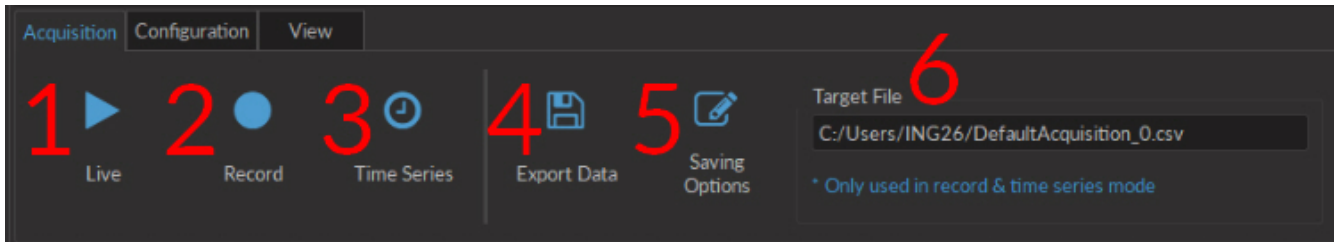
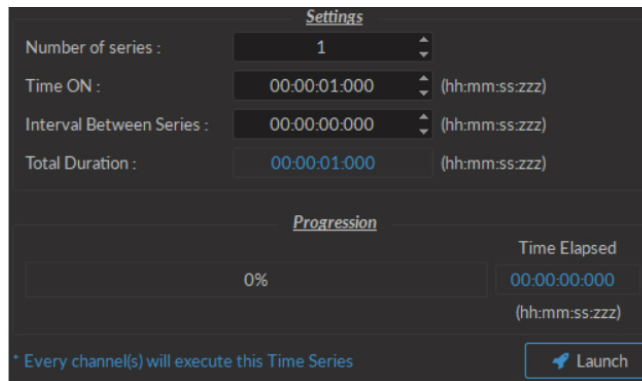
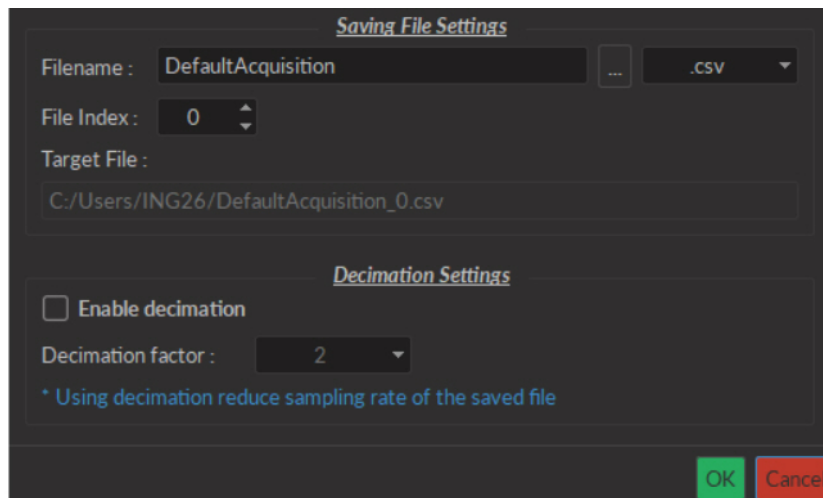

Figure 3.26: Acquisition Tab
Figure 3.28: Time Series Window
Figure 3.29: Saving Menu Window
1. The **Live** button (Fig. 3.26) activates all prepared channels. This mode does not automatically save data, keeping only the most recent 700 000 data points in memory. This mode is not recommended for long or critical measurement sequences.
2. The **Record** button (Fig. 3.26) activates all prepared channels while periodically saving recorded data to the disk. This mode is recommended for long measurement sequences.
3. The **Time Series** button (Fig. 3.26) opens the **Time Series Window** (Fig 3.28). This window allows the organisation of timed activation using the following parameters. Each **Time series** sequence is automatically saved to the same .csv file as defined in **Saving Options**.
4. The **Export Data** button (Fig. 3.26) will export all data in the **Acquisition view** into a .csv file. This is the only way to export data obtained will using the **Live** acquisition mode.
5. The **Saving Options** (Fig. 3.26) button opens the **Saving Menu** window (Fig. 3.29).
6. The **Target File** box (Fig. 3.26) displays the save location and name used for files obtained using **Record**.